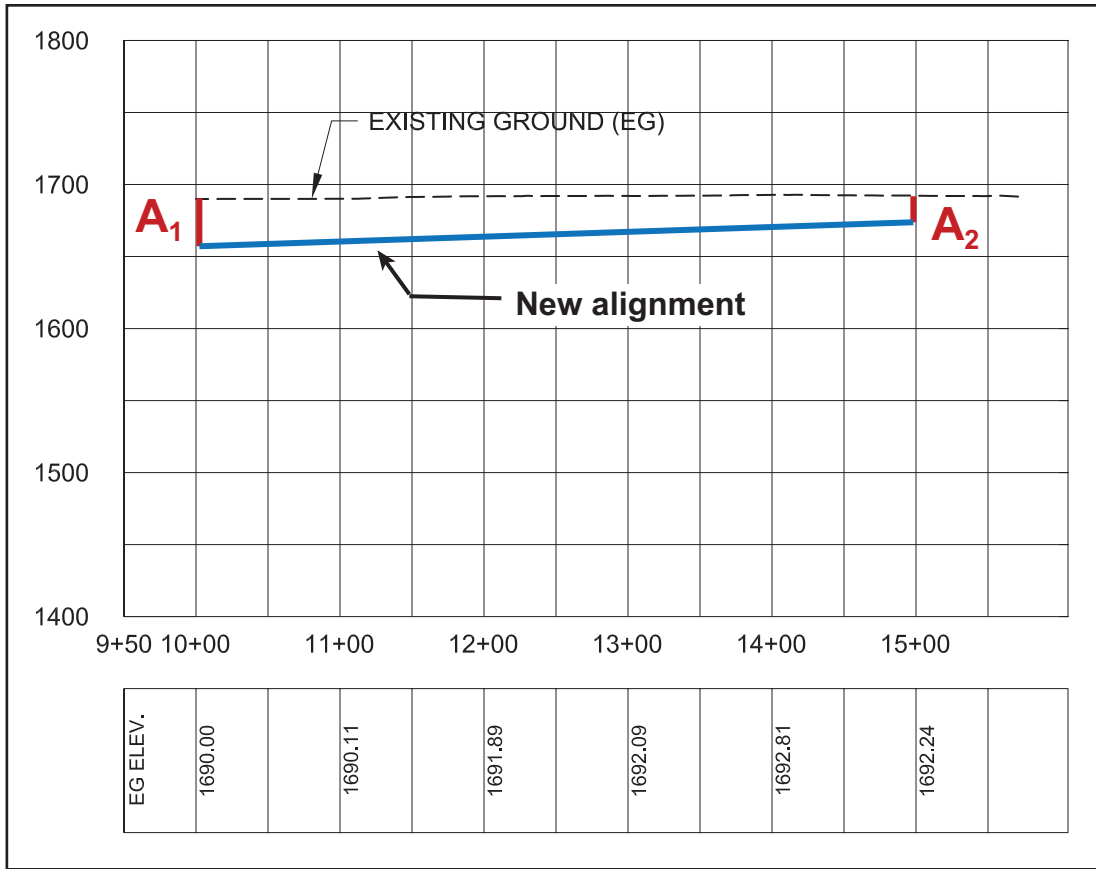

Figure 2 Profile View of Earthwork Calculation with Average End Areas Method
2. Once all end areas are calculated, the total cut or fill area between two 500 ft stations can be calculated in the way illustrated in Figure 2, which shows the profile view of the existing and new alignments. The total cut quantity between stations 10+00 and 15+00 is: